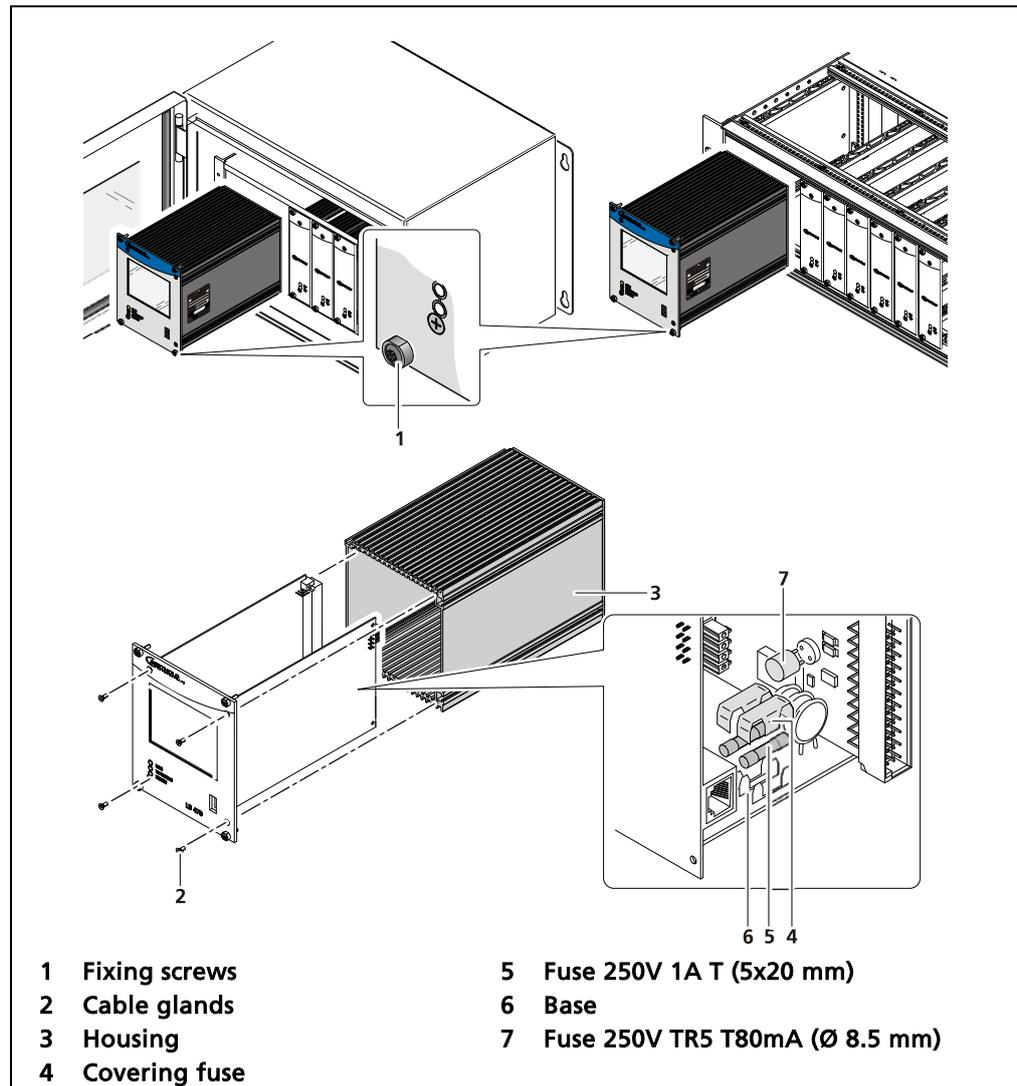

Fig. 123 Replacing fuses EVU
2. Release the four fixing screws (Fig. 123, item 1) and pull the EVU out of the wall housing or the subrack.
3. Release the four recessed screws on the front of the EVU (Fig. 123, item 2).
4. Pull out the housing (Fig. 123, item 3) carefully.
5. Remove the protective covering of the fuse (Fig. 123, item 4)
6. Remove the fuse (Fig. 123, item 5, item 7).
9. Screw the front panel to the housing with the four screws (Fig. 123, item 2).
11. Tighten all fixing screws (Fig. 123, item 1).